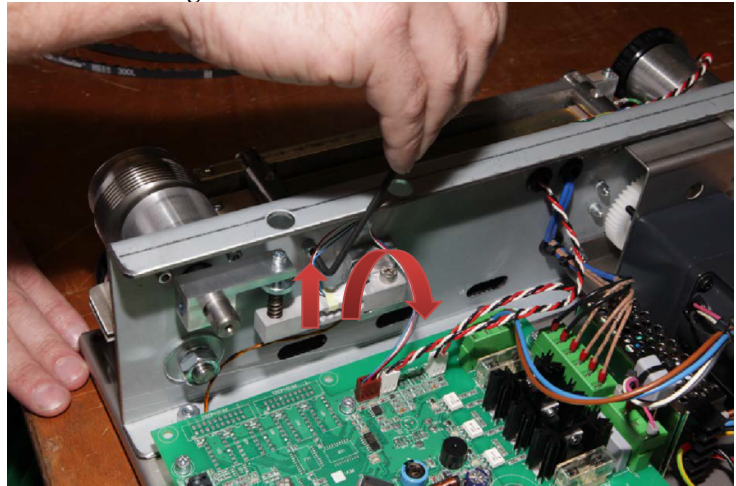

Figure 3
3. Remove the screw for the right upper element support with an “L” wrench turning counterclockwise. **Fig. 3**